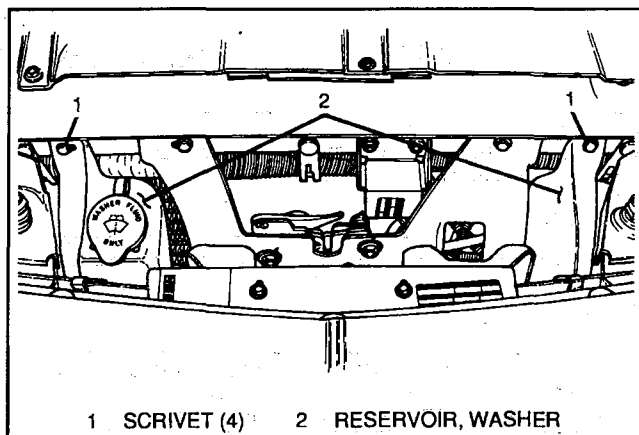

Figure 7 — Washer Reservoir (Top Front View)
Figures 7 and 8
2. Two scrivenets (1, Figure 7) from top of washer reservoir (2).
7. Two scrivenets (1) from bottom of washer reservoir.
2. Washer hose assembly (5) and electrical connector (3).
3. Washer reservoir with 2 scrivenets (1, Figure 7) at bottom of reservoir.
7. Two scrivenets (1) at top of washer reservoir.